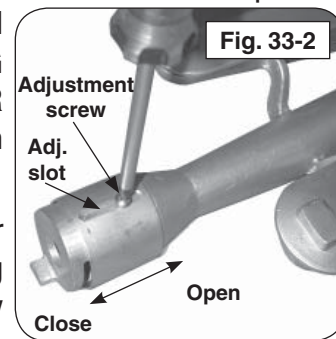

Fig. 33-2
2. Adjust the air shutter opening by loosening the adjustment screw with a screwdriver, then sliding the air shutter backward or forward to open or close the air shutter opening (see Fig. 33-2).